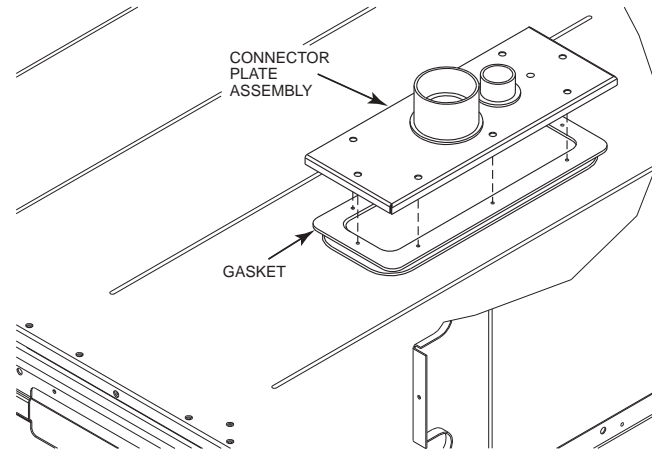

Fig. 51 — Installing Thru-the Base Option
3. Place the gasket over the embossed area in the basepan, aligning the holes in the gasket to the holes in the basepan. See Fig. 51.